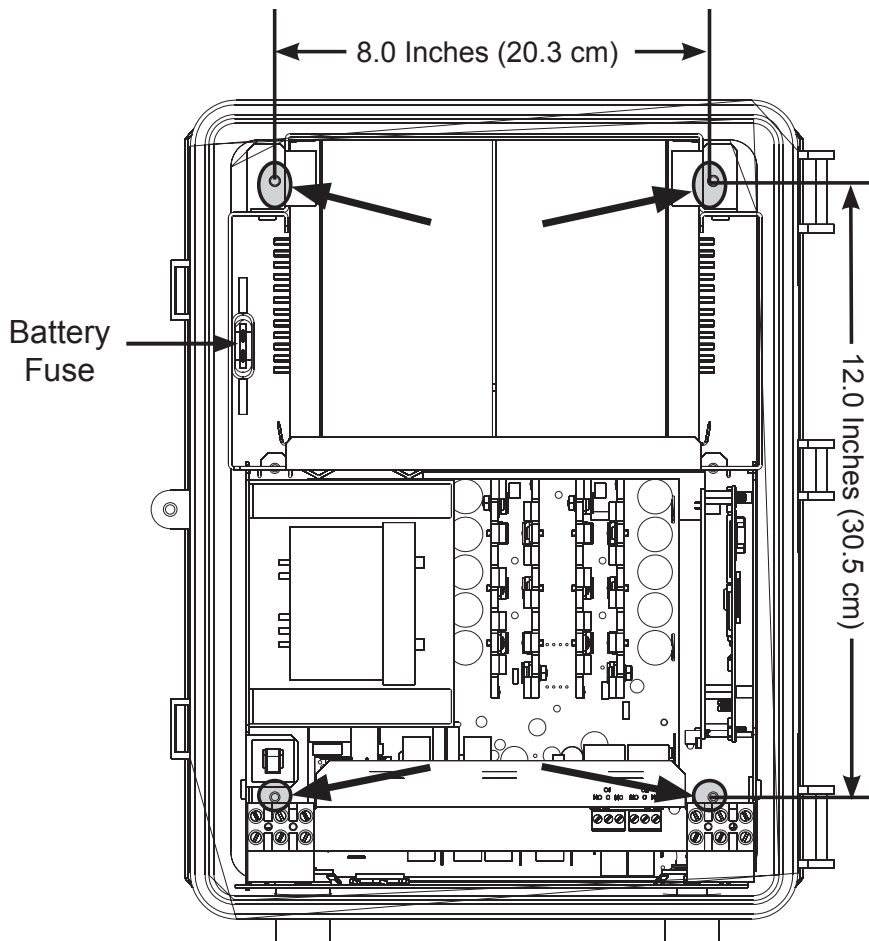

Figure 1.1 – Mounting hole locations (Surveillance version shown)
- 1.** Secure the case to a wall by driving the 4 supplied Phillips-head wood screws through the mounting holes. (See Figure 1.1 below)
5. Install the battery fuse by snapping it quickly and firmly into the mount. (Figure 1.1)